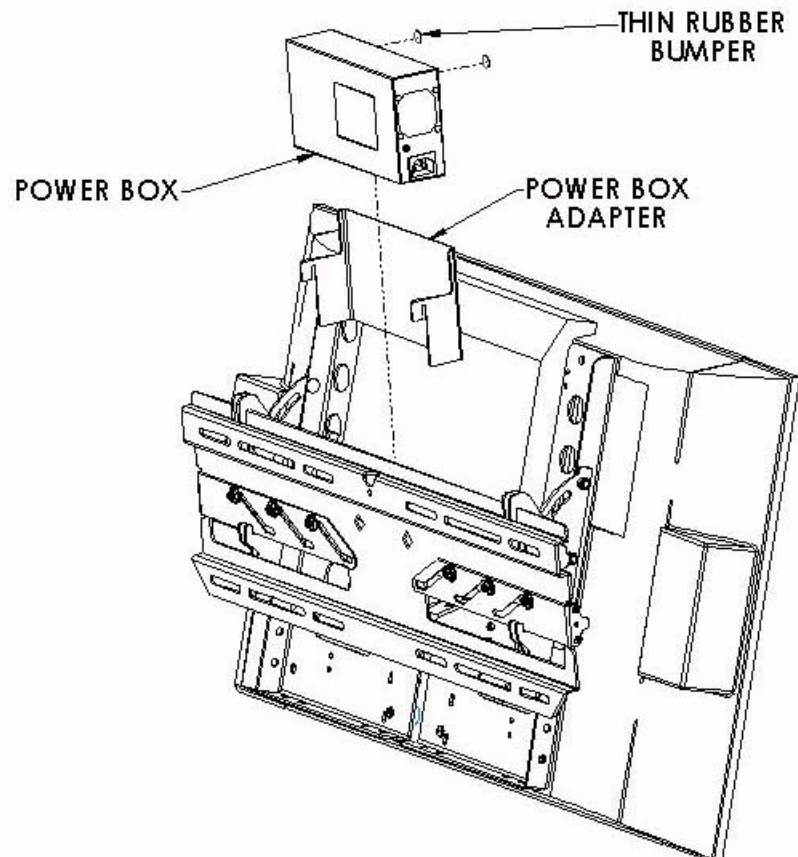

Figure 11. Adapter Box Installation
5. Install the Power Box Bracket (130) to the wall plate (10) by aligning the slots of the adapter with the hooked edge of the mount (see Figure 11).
5. Place two thin rubber bumpers 180) on power box to protect back of screen and power box from damage (see Figure 11).